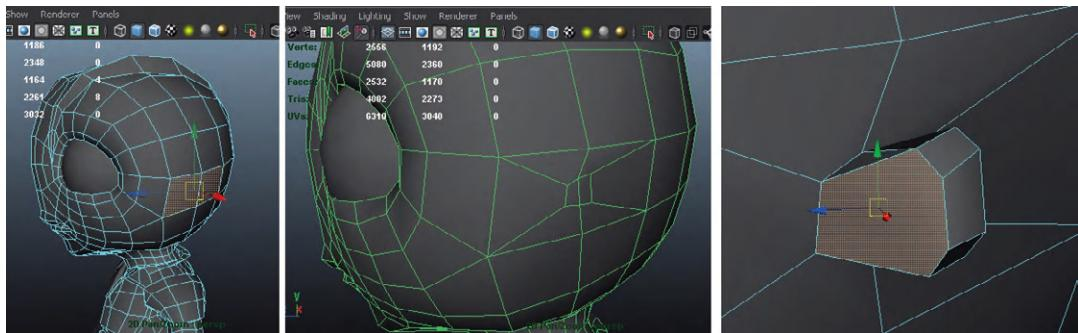

FIG. 4.83 Roughing out the ear with a few extrusions.
Step 102: Create initial shape of the ear extrusion with a series of extrusions (Fig. 4.83).